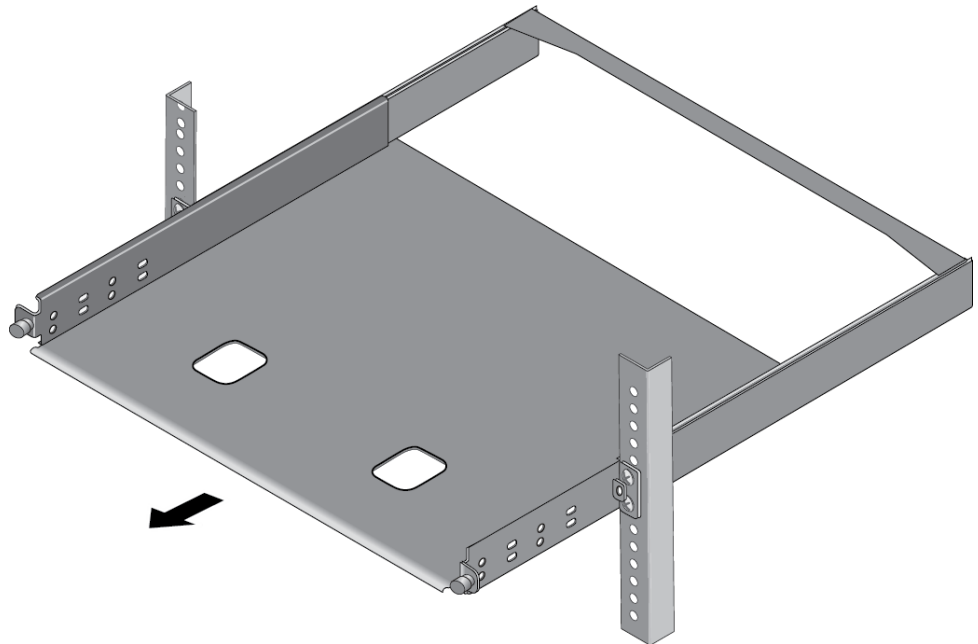

Figure 27. Sliding Out the Tray from the AT-RKMT-J15
3. Slide out the bracket tray. Refer to Figure 27.